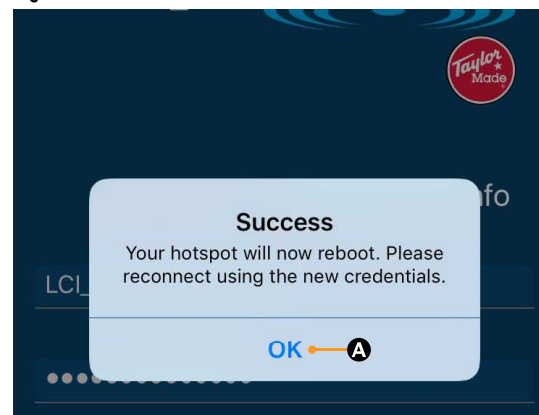

Fig.17
6. If the Enter button was pressed, the **Success** screen (Fig.17) will display.